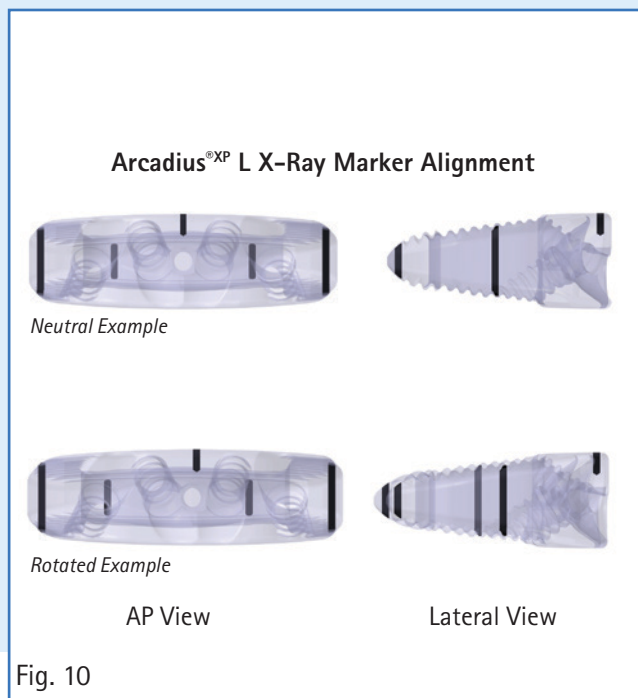

Fig. 10
- Observe the x-ray markers in both the AP and lateral views to ensure that the implant is not rotated within the disc space (Fig. 10).